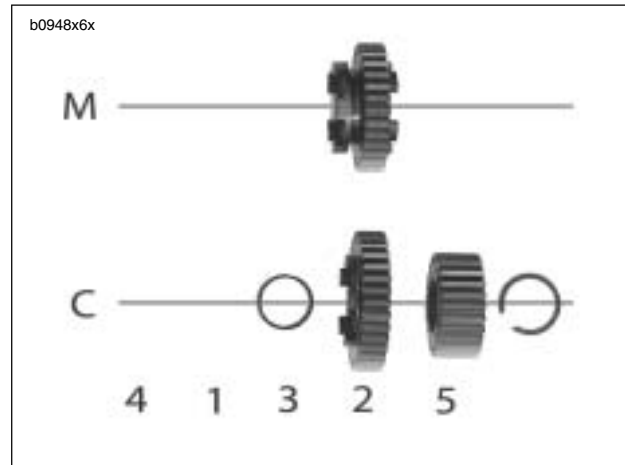

Figure 6-62. Transmission Parts Identification
- See Figure 6-62. As each component is removed, place it on a clean surface in the exact order of removal.